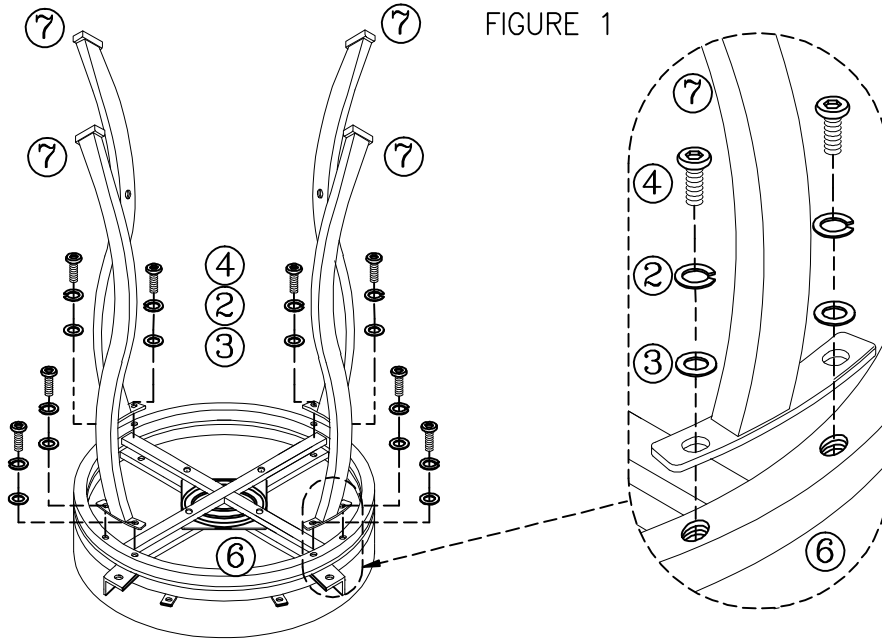

FIGURE 1
- Align holes on leg metal bracket (7) with threaded holes on metal seat ring (6), and secure leg (7) with screw (4), spring washer (2) and flat metal washer (3). SEE FIGURE 1
NOW TIGHTEN ALL SCREWS (4) COMPLETELY. FROM STEP 1 (FIGURE 1)